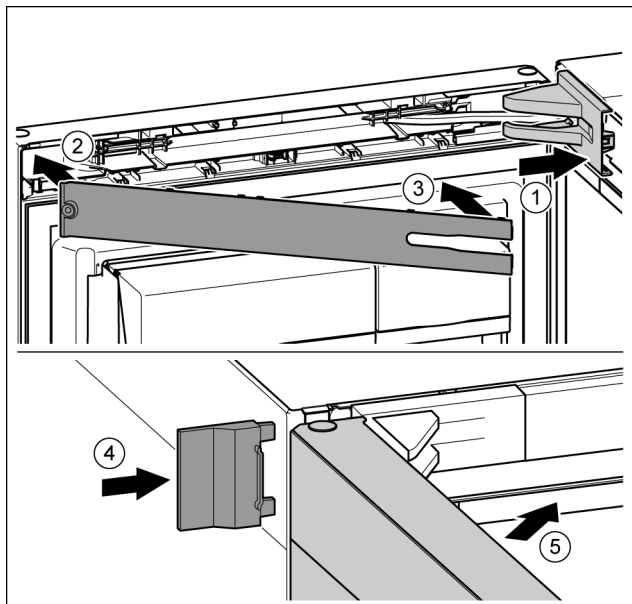

Fig. 49
- ▶ Position the bearing bracket and engage. If necessary push apart carefully. Fig. 49 (1)
- ▶ Position the panel. Fig. 49 (2)
- ▶ Swing in the panel and click into place. Fig. 49 (3)
- ▶ Slide on the external cover. Fig. 49 (4)
- ▶ Close the upper door. Fig. 49 (5)